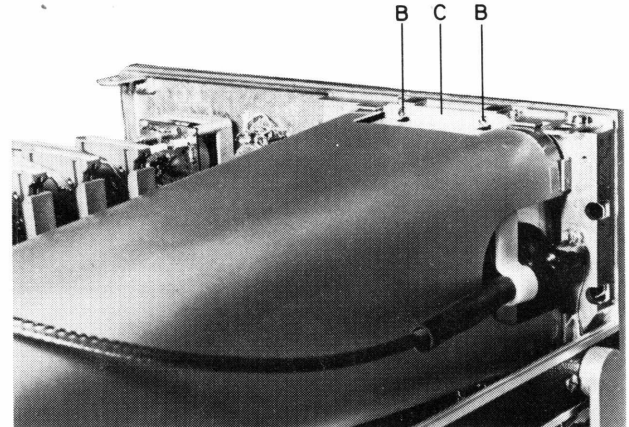

Fig. IX-3 Removing the c.r.t.
- Loosen the two screws B and remove bracket C (Fig. IX-3).
- Mount bracket C and tighten the both screws B (Fig. IX-3).